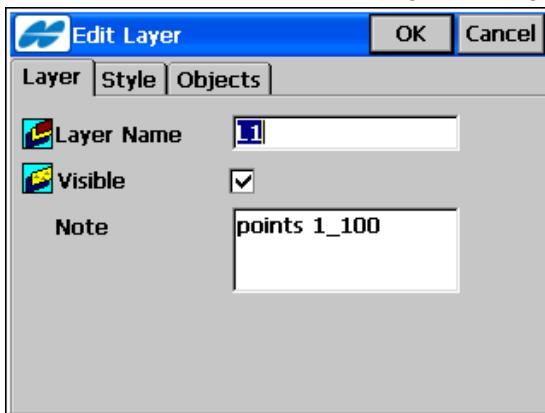

Figure 6-27. Edit Layer Name
- **Edit** – opens the applicable **Edit Layer** screen to display the properties of the highlighted layer (Figure 6-27 on page 6-23).
The **Edit Layer** screen (Figure 6-27) is similar to the **Add Layer** screen but has the additional *Objects* tab to view objects on the layer.